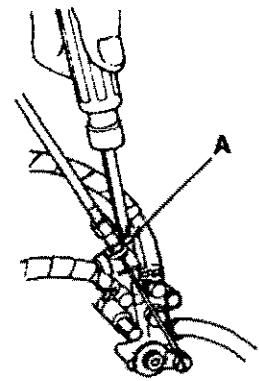

Fig. SZ14-6—Use oil pump air bleed screw (A) to bleed trapped air from oil supply line or pump.
BLEEDING PUMP. To bleed trapped air from oil supply line or pump, first make sure outboard motor is in an upright position and oil tank is full. Open oil pump air bleed screw (A—Fig. SZ14-6) three or four turns to allow oil to seep out around screw threads. After five seconds or when no air bubbles are noticed, close air bleed screw (A).